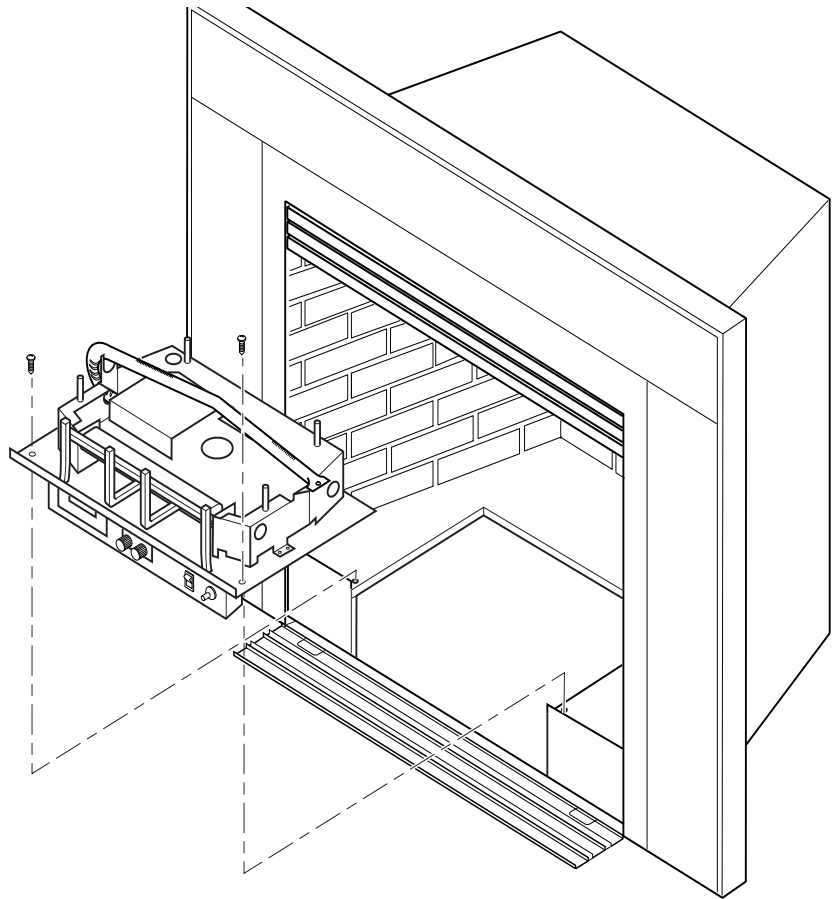

Figure 16 - Removing Grate and Base Assembly
3. To remove the grate and base assembly, take out two screws as shown in *Figure 16*.